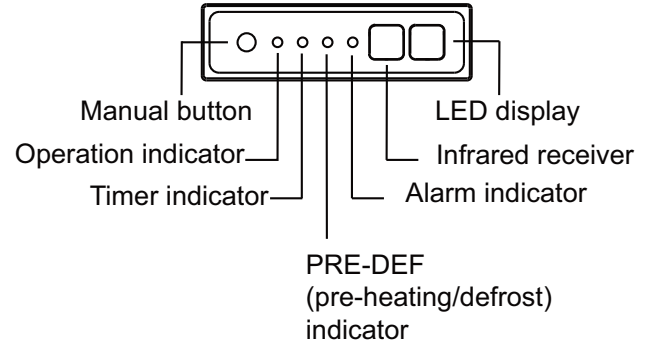

Fig. 19 —IR (Infrared) Receiver Display Panel
- This display panel on the indoor unit can be used to operate the unit in case the remote control has been misplaced or is out of batteries. See Fig. 19.